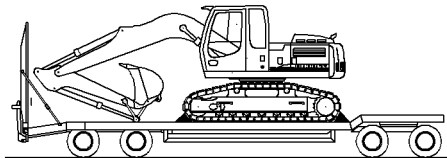

Fig. 3-141 Transport position - machine
- ▶ Rotate the upper carriage carefully 180° (direction of travel over leading wheel) and lower the equipment (siehe Fig. 3-141).